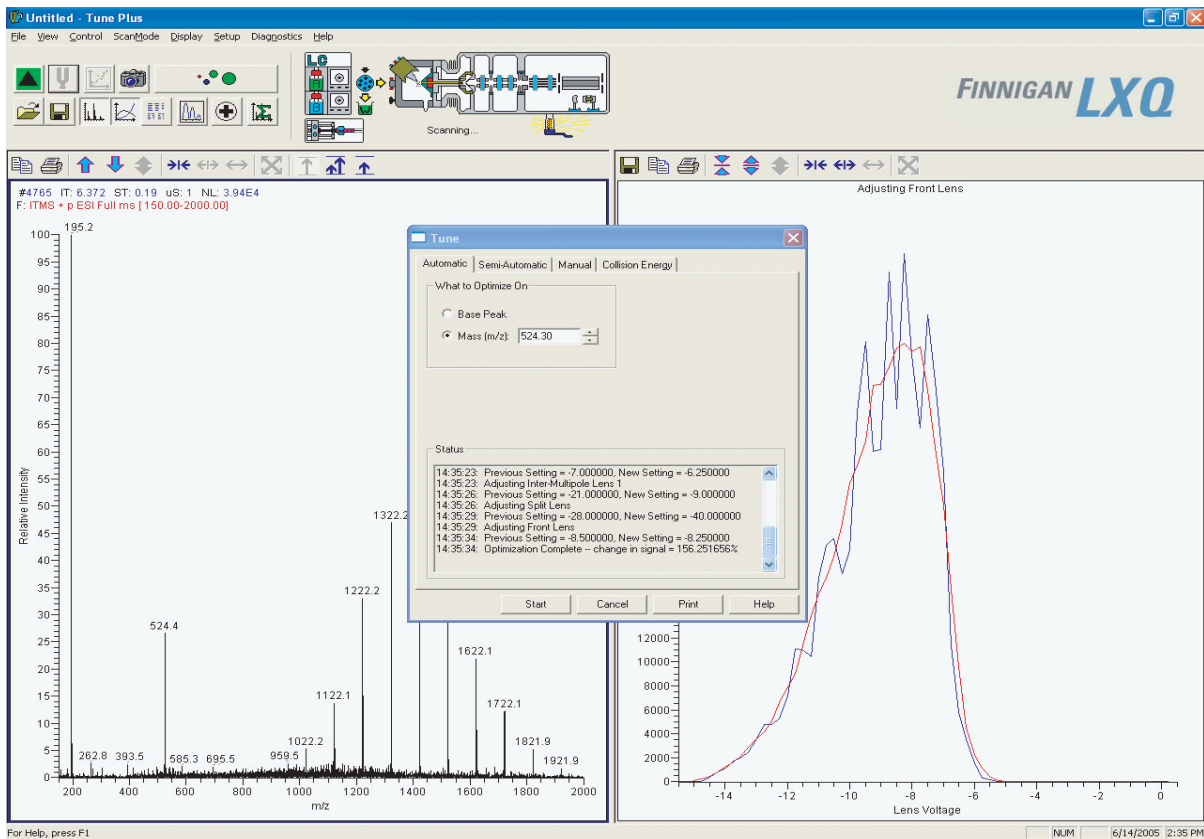

Figure 24. Tune Plus window, showing the windows obtained from a typical automatic tune procedure
6. On the File/Display toolbar, click on the Graph View button to display the Graph view. See Figure 24.
7. Observe the Tune Plus window and the Tune dialog box. While automatic tuning is in progress, the Finnigan LXQ MS detector displays various tests in the Spectrum and Graph views in Tune Plus and displays various messages in the Status group box in the Tune dialog box. Your Tune Plus window should now look similar to the one shown in Figure 24.